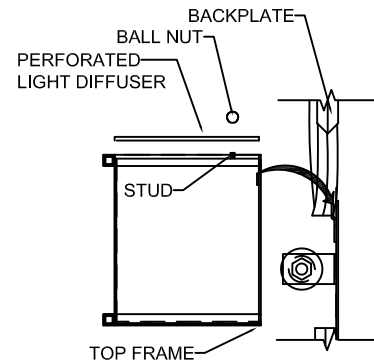

Figure 1-3
STEP 10: Attach the upper fixture frame to the back plate. Assemble the perforated glass diffuser to the upper frame. Lock in place diffuser to the upper frame. Lock in place using the ball nut provided. see figure 1-3.